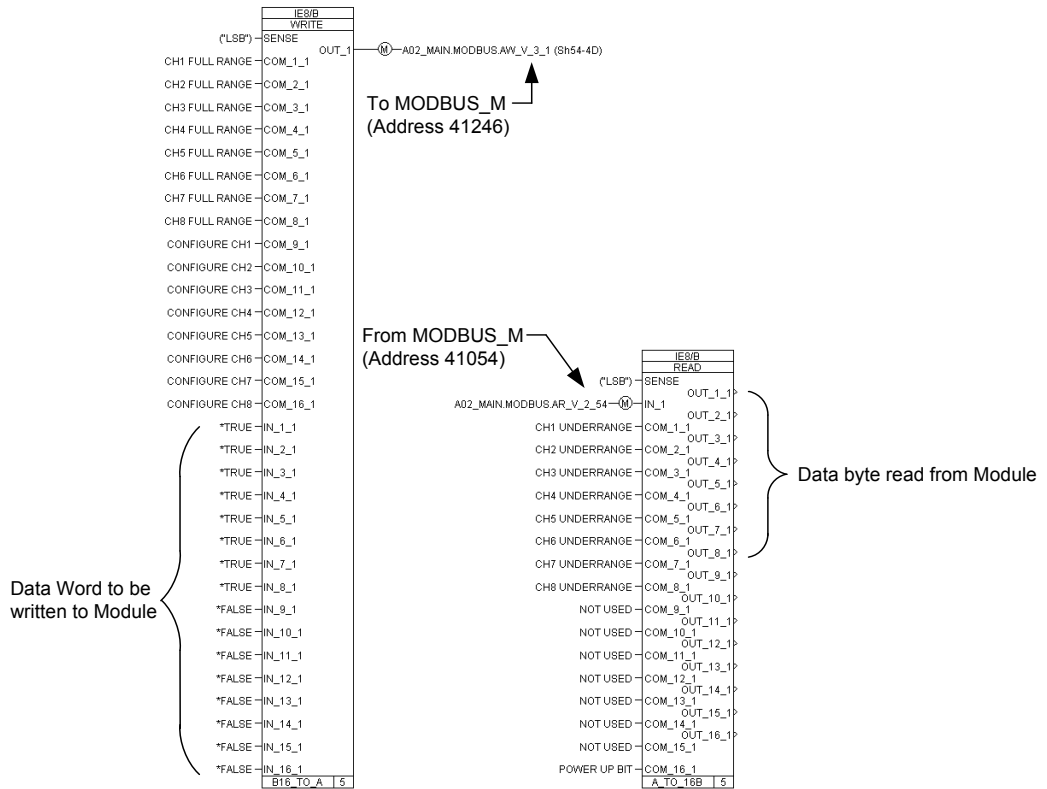

Figure 6-72. Example of 1794-IE8/B Read and Write GAP Blocks
In this example, the write block is set up with Range Select bits for all channels set to 0-21mA. The read block is set up to be able to read the status of the underrange bits for all channels and the Power Up bit (PU). See Figure 6-72 for example of 1794-IE8/B Read and Write GAP blocks.